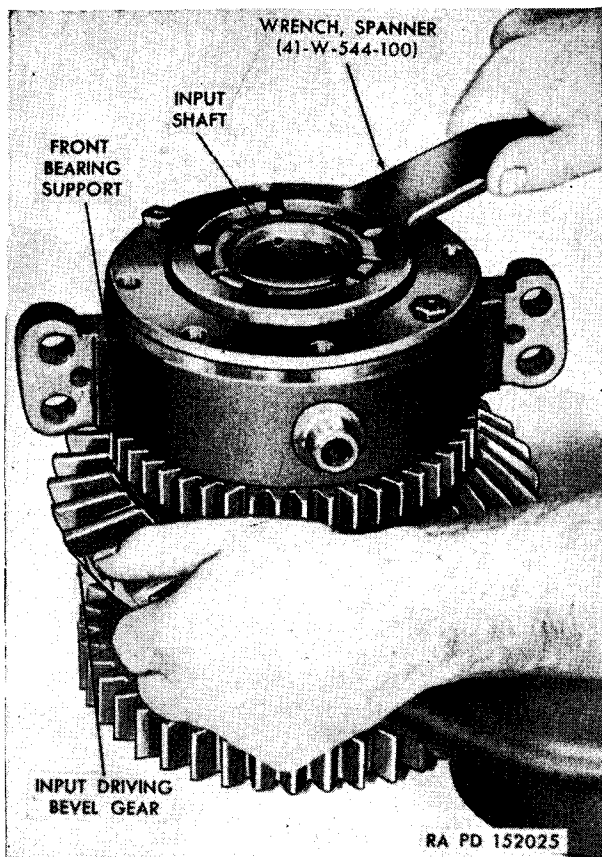

Figure 286. Removing or installing input-shaft lock nut.
- (13) Install the bearing retainer and secure it to the bearing cage with four $\frac{5}{16}$ -inch bolts. Torque the bolts 15 to 18 pound-feet. Install the front bearing and cage assembly on the input shaft using an arbor press (fig. 298). Install and tighten the lock nut (fig. 286).